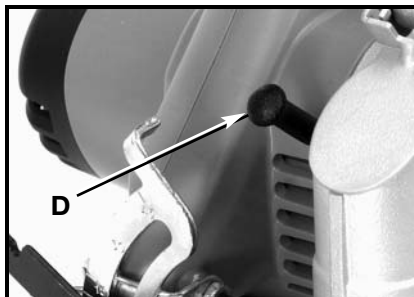

Fig. 5
2. Push in the blade lock (D) Fig. 5, and rotate the blade by hand until the lock engages the blade arbor.